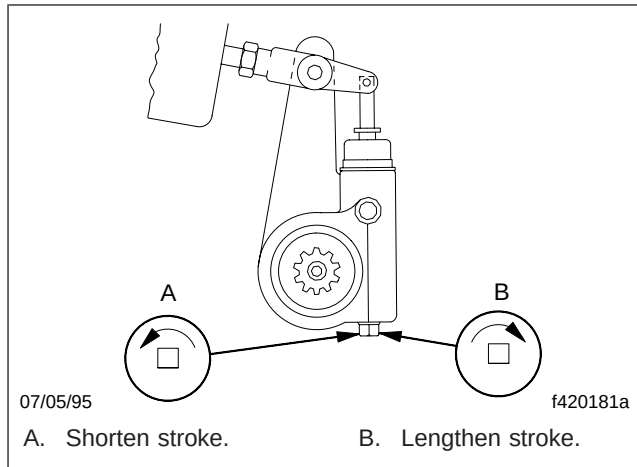

Fig. 2, Adjusting the Stroke
6. Using the manual adjusting nut on the slack adjuster, adjust the brake chamber stroke (coarse adjustment), as follows. See Fig. 2.
If the applied chamber stroke is incorrect, turn the adjusting nut 1/8-turn counter-clockwise to shorten the stroke, or 1/8-turn clockwise to lengthen it. See Fig. 2. Measure the applied stroke again and readjust it until it is correct.
- 8.4 The free-stroke for a new brake installation should be 5/8 to 3/4 inch (16 to 19 mm). For a brake that is in service the free stroke should be 1/2 to 5/8 inch (13 to 16 mm). If it is not, turn the adjusting nut 1/8 turn, as shown in Fig. 2. Then, measure the free-stroke again, and readjust it until it is correct.